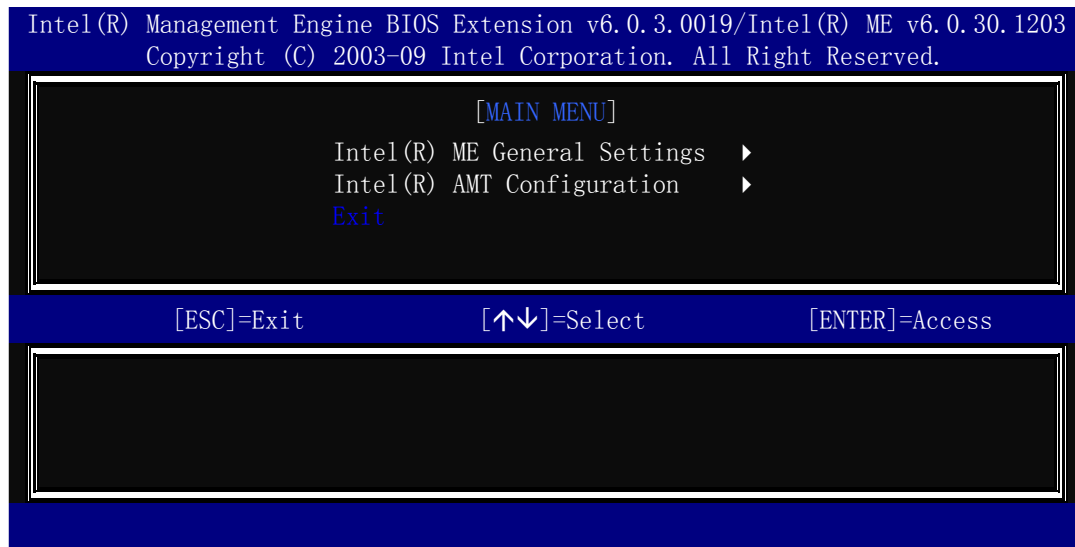

Figure A-8: Exit
Step 10: To exit the Intel® MEBx, return to the main menu and select Exit. (**Figure A-8**)